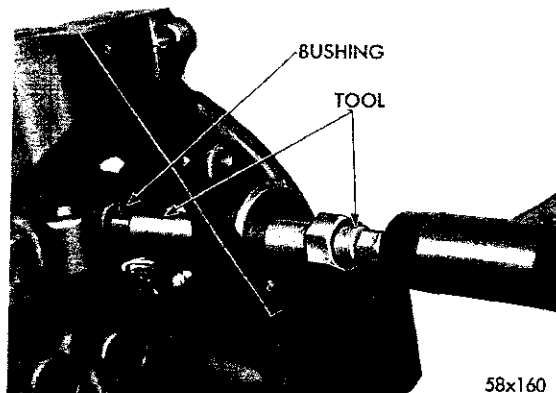
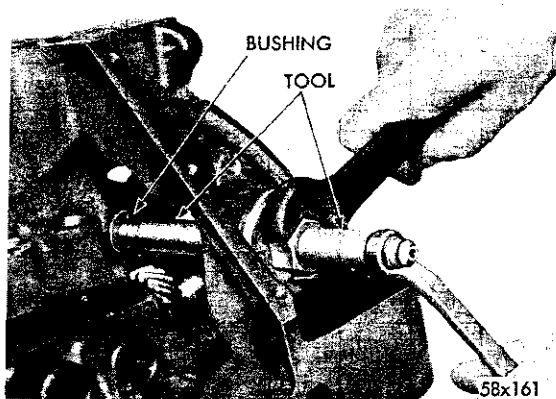

Fig. 33—Installing the Distributor Drive Shaft Bushing Using Tool C-3053
Fig. 34—Burnishing Distributor Drive Shaft Bushing
- (1) Slide a new bushing over the burnishing end of Tool C-3053 and insert the tool bushing into the bore, as shown in Figure 33.
- (2) Drive the bushing and tool into position, using a soft hammer.
- (3) As the burnisher is pulled through the bushing by tightening the puller nut, the bushing is expanded tight in the block and burnished to the correct size, as shown in Figure 34. **DO NOT REAM THIS BUSHING.**